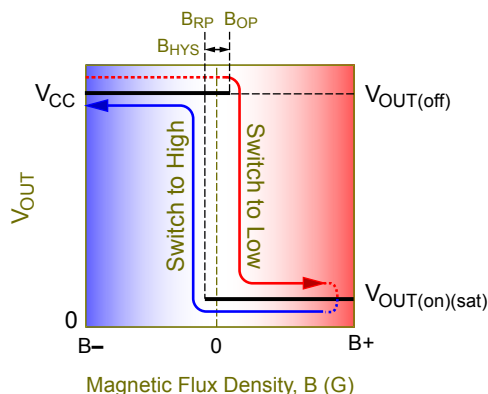

Figure 4A. Latch mode characteristic. Note that the switch point hysteresis zone, B_{HYS} , includes the neutral flux density level, $B = 0$ G.
1. For purposes of explanation of figure 4A, assume the device powers-on with the magnetic flux density at the far left, where the magnetic flux (B , on the horizontal axis) is more negative than B_{RP} or B_{OP} . Here the device is off, and the output voltage (V_{OUT} , on the vertical axis) is high.